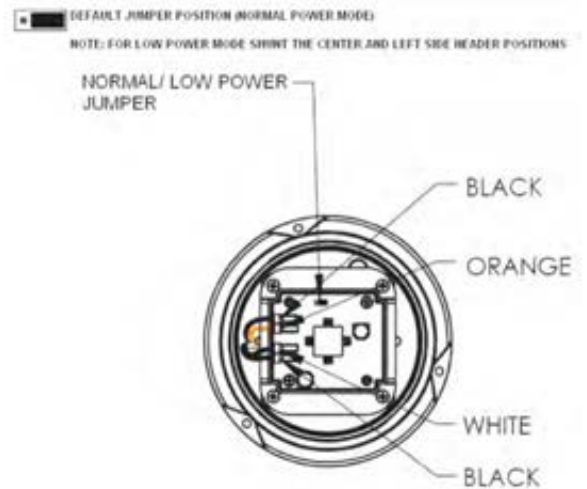

Figure 3: Low power mode jumper
- c. As shown in **Figure 3**, use the jumper to shunt the center and the left side header positions on the 3-position connector.